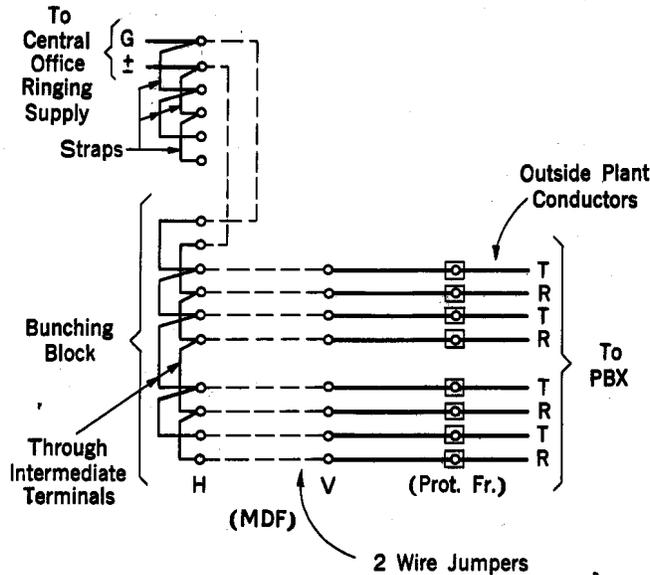

**Fig. 41—Three Pair (Strapped) Termination of Ringing Supply Without Bunching Block—Distributing Frames Having Separate Protector Frames—1 to 3 Cable Pairs**
**20.11** Where the ringing supply circuit is terminated by means of strapped connections on three adjacent pairs of terminals on the horizontal side of the main distributing frame and bunching blocks are not provided, run one paired jumper from each pair of terminals associated with the ringing supply to the terminals of the 198A or similar type terminal strips on the cable (vertical) side of the main distributing frame, when three or fewer cable pairs are used. (See Fig. 41.) If four or more pairs of outside plant cable conductors are used, run one paired jumper from each pair of terminals assigned on the cable (vertical) side of the main distributing frame to a bunching block and run one paired jumper from the bunching block to the first pair of strapped terminals associated with the ringing supply circuit. (See Fig. 42 and note under paragraph 20.10.)